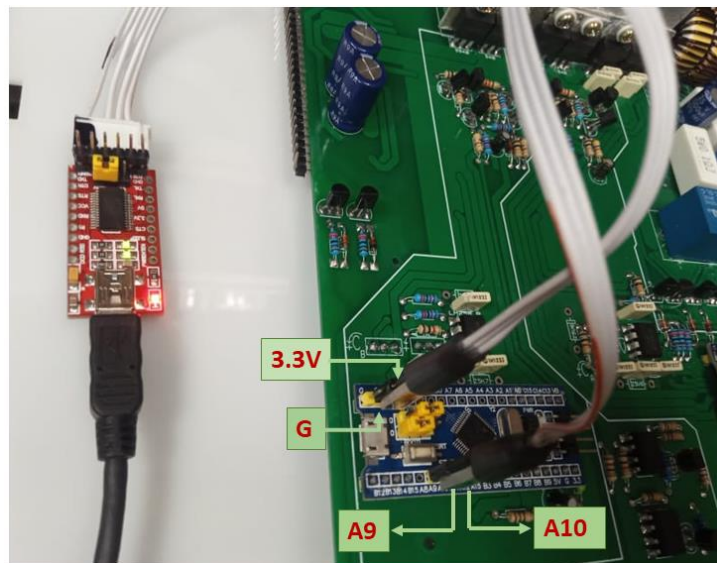
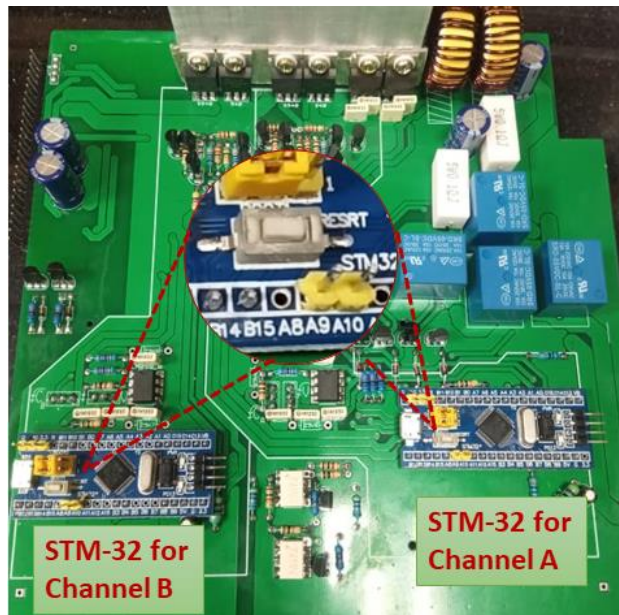

Figure 2: Connections of FTDI pins on STM32 (located on PCB of PhysWatt).
Figure 5: RESET FLASH button, located on STM32 of PhysWatt PCB needs to be pressed and released, when prompted in the Console.
4. Plug in the four FTDI pins: G, 3.3V, Rx, Tx, to the respective four points/connectors: G, 3.3V, A9, A10, on the STM32 of one of PhysWatt channels, as indicated in Figure 2. (Figure 5 shows the position of the STM32 modules for each respective channel.)
- IV. When prompted, “Hold BOOT0 and press Reset once,” press the Reset Flash button on STM 32, as shown in Figure 5. Wait for a moment and then press any key on the keyboard to continue.